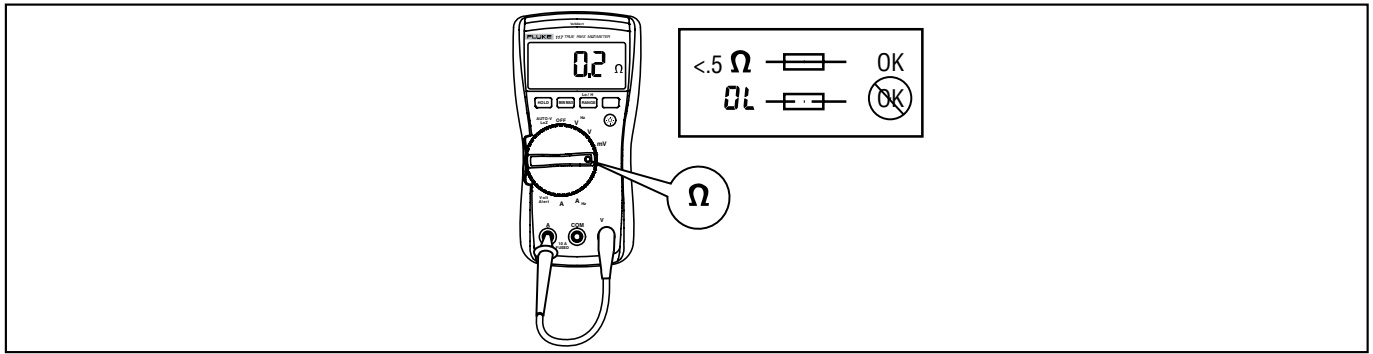

Figure 1. Fuse Testing
2. Plug a test lead into the $\frac{V}{\Omega}$ jack and touch the probe to the 10A jack, as shown in Figure 1.
If the display shows a resistance value in the range of that shown in Figure 1, the fuse is good.